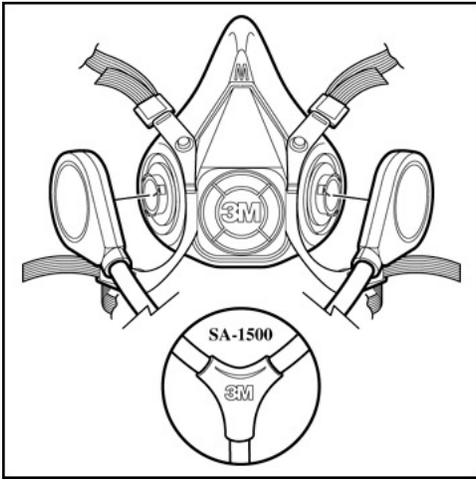

Fig. 2
1. Hold the half facepiece in front of you so that the 3M logo on the half facepiece is facing you. Align the two branches of the breathing tube over the two bayonet mounts on the half facepiece. For the 3MTM SA-1500 or SA-1600 Breathing Tubes, make sure that the 3M logo on the breathing tube and on the half facepiece are both facing towards you. For the 3MTM SA-2500 or SA-2600 breathing tubes, make sure that the 3M logo on the breathing tube is facing in the opposite direction to the 3M logo on the half facepieces. (Fig. 2 and 3)